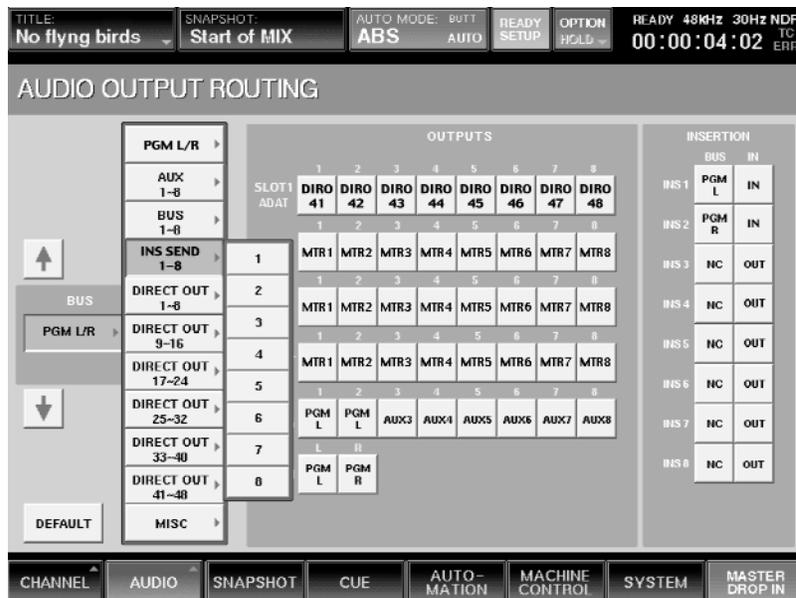

Figure 27
- Now that the Inserts are set, the next step is to select the physical output connectors to use as the Insert sends. To set Aux 1 as the Insert 1 send, press INS SEND 1-8 in the Bus section twice so that the drop-down menu (1 - 8) appears. (See Figure 27)